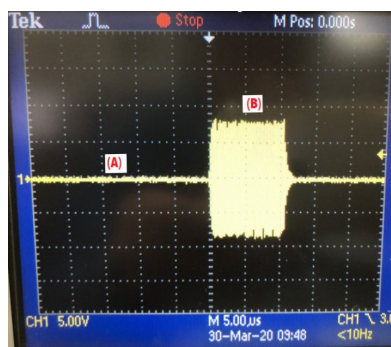
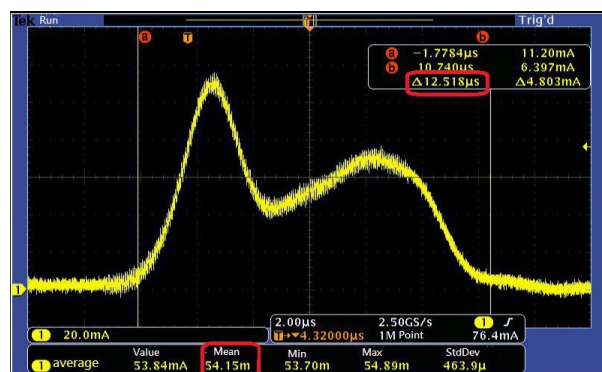

Figure 15
Figure 16
- c) Use an oscilloscope to examine the antenna transmitter waveform (Figure 15). The RF transmits a signal once every 500ms for about 12.5 $\mu$ s (Figure 15-(B)).
- d) For the stage shown in Figure 15-(A), it is not possible to use the oscilloscope current mode to make measurements due to its small magnitude, measured only in microamperes. A ammeter is used instead to obtain the current value, about 5 $\mu$ A.
- e) For the stage shown in Figure 15-(B), it is possible to use the oscilloscope current mode to make measurements. As shown in Figure 16, there are two intervals of 12.5 $\mu$ s every 1s with an average current of about 54mA for each interval. Averaging the current in these two intervals for 1s gives about 1.35 $\mu$ A.